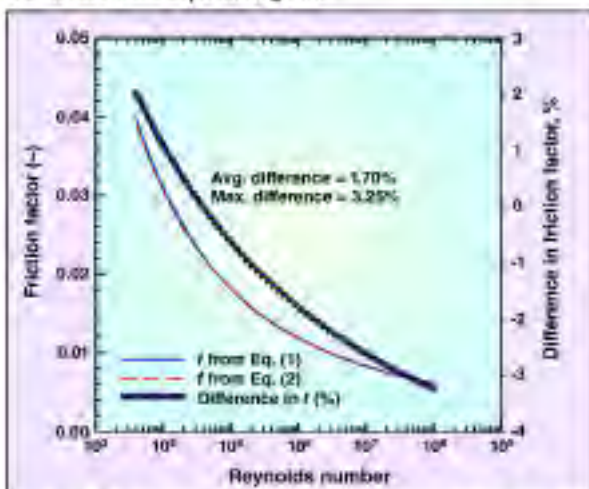

FIGURE 4. Equations (1) and (2) are comparable over the entire range of Reynolds number values typically observed
typically encountered in practice. Friction factor estimates from Equations (1) and (2), along with the percentage difference in estimates, are shown in Figure 4 for 1,000 logarithmically spaced Re values in the $4 \times 10^3 < Re < 10^8$ range. For $4 \times 10^3 < Re < 38.35 \times 10^3$, f estimates from Equation (1) were higher than those from Equation (2), and the error difference between Equations (1) and (2) decreased monotonically with Re from 2.02% at $Re = 4 \times 10^3$ to 5.9×10^{-4} % at $Re = 38.35 \times 10^3$. For $Re > 38.35 \times 10^3$, f
estimates from Equation (1) were lower and the error difference also increased monotonically with increasing Re values from -6.62×10^{-3} % at $Re = 38.35 \times 10^3$ to 3.25% at $Re = 10^8$. Overall, the average absolute difference was 1.70%, while the maximum difference was 3.25% (Figure 4). Given that experimental data in very specialized and controlled experiments have errors in the 1.1–4% range [6, 9], Figure 4 suggests that both Equations (1) and (2) are comparable over the entire